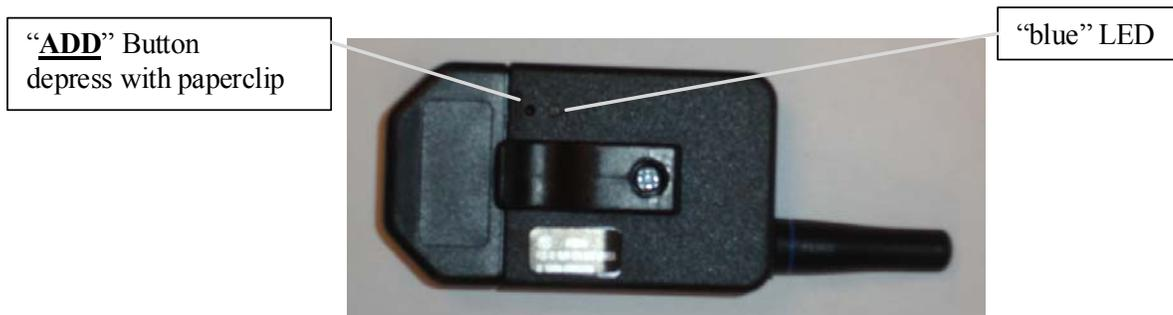

Fig. 2: Transmitter Back Button Assignments
3. On the backside of the Transmitter depress the "**ADD**" button (see Fig. 2) using a small pin or paper clip – You will see a "blue" LED start to blink (for approximately 15-17 seconds).